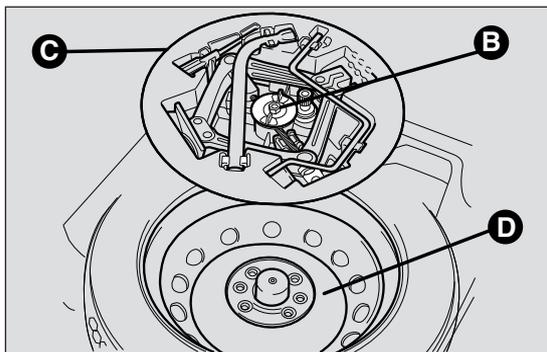

fig. 97
- loosen the fastener B fig. 97
- take out the tool box C fig. 97 and place it next to the wheel to be changed;
- take the space-saver wheel D fig. 97;
- arrange the space-saver wheel D fig. 97 in the specific compartment in the boot;